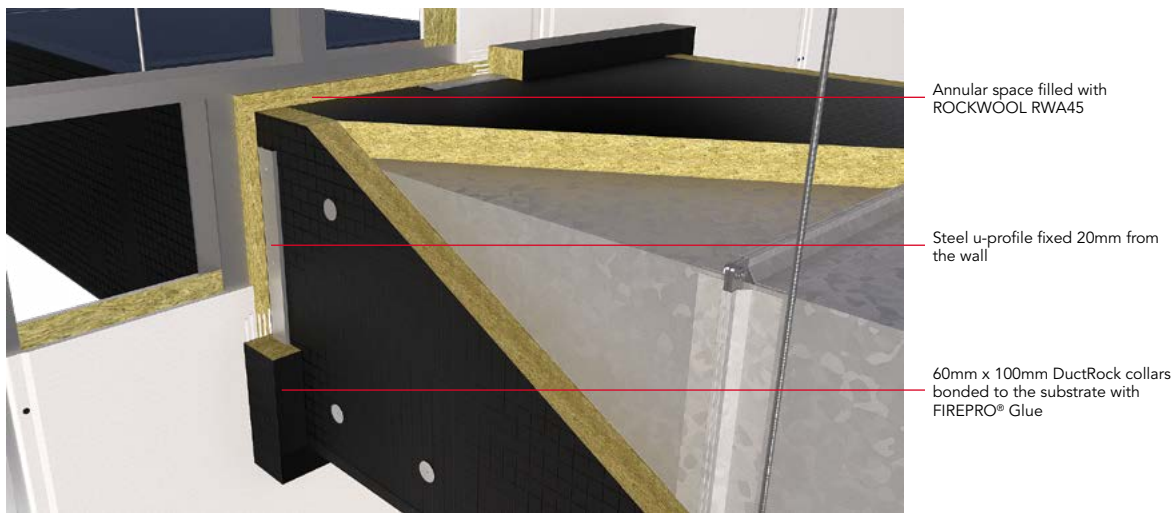

Figure 9
2. Fill the remaining annular space between the DuctRock® Slab and supporting structure of the dry wall system with ROCKWOOL RWA45 as shown in Figure 9.
5. Once the u-profiles have been applied an insulated collar must be installed around the perimeter of the aperture. The collar can be simply cut from the DuctRock® Slab. Fix the collars in place with FIREPRO® Glue as shown in Figure 9. Use nails to temporarily hold the collars in place whilst the glue cures.